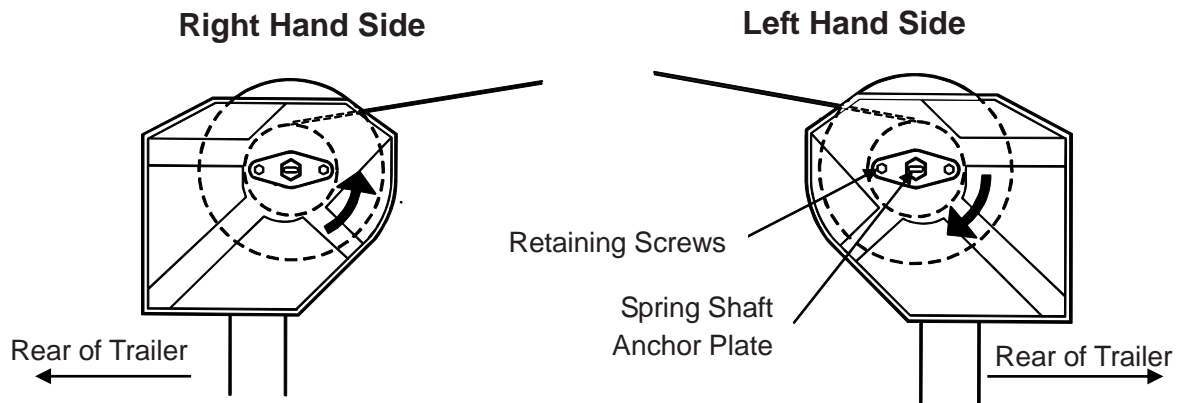

Figure 8.1
- 3) A person on either side must hold the springs in tension while a third person removes the fixings holding the spring shaft anchor plates (Fig 8.1).
- 8) Fit the spanners onto each of the spring shaft anchor plates and rotate in direction shown in Fig 8.1.